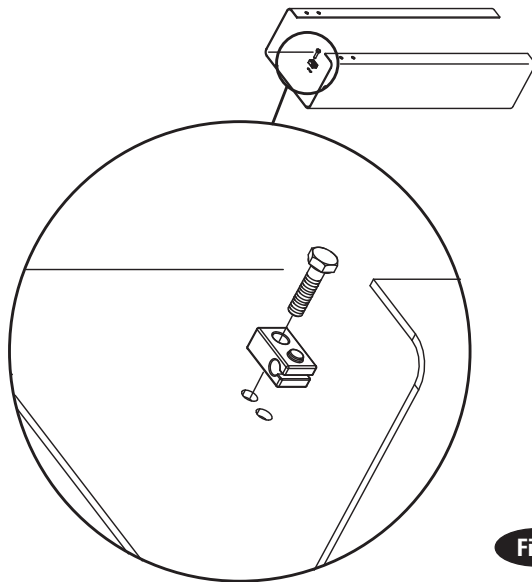

Fig. 3
**2. Latch Cable Guides:** Install the latch cable conduit guide brackets to column extensions with (1) 1/4"-20NC x 1" HHCS and 1/4"-20NC Flanged Locknuts, Fig. 3. HHCS should go through hole nearest the edge as shown, Fig. 3.
**3. Column Extensions:** While column is on the ground, install column extensions using (4) 1/2"-13NC x 1-1/4" lg. HHCS and Hex Nylon Locknut, Fig. 2 and Fig. 3. Use (2) M10 x 1.5 x 20mm HHCS and Flanged Locknut to attach the tie bar and the column extension together at the column's uppermost holes, Fig. 2 and Fig. 2a. The tie bar is positioned on the outside of the column extension. Adjust the column extensions plumb.